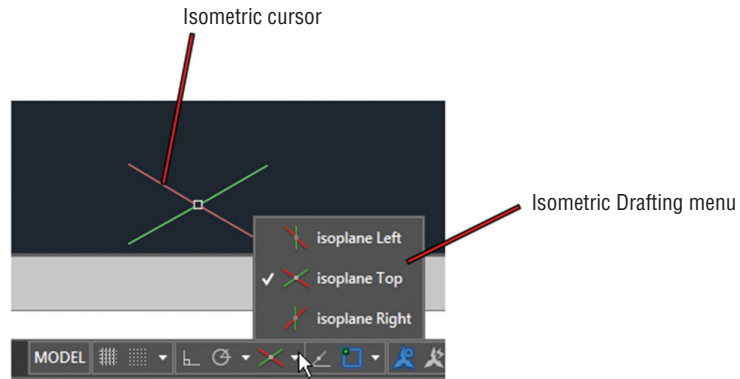

FIGURE A.4 The cursor changes to match the currently selected isoplane (top in this example) selected in the Isometric Drafting menu on the status bar.
3. Press the F5 key repeatedly and watch what happens to the Isometric Drafting button on the status bar. Each time you press F5 (or Ctrl+E) you cycle through three different *isoplanes*: left, top, and right. Notice the corresponding changes to the cursor in the drawing window and to the icons on the status bar (see Figure A.4).